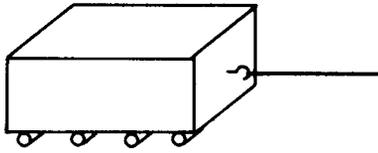

Figure 5-9
9. Place the wooden block on four or five wooden dowels (Fig. 5-9).